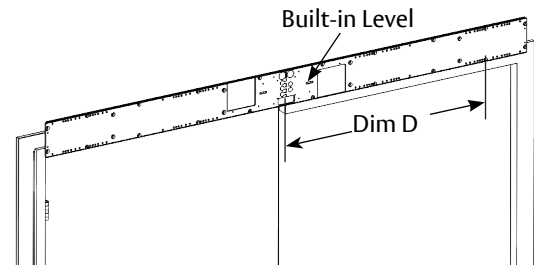

Figure 5
4. Interlock right backplate (3 small “fingers”) from Box 2 with left backplate. (Figure 5)
5. Use level on right backplate to ensure proper alignment. (Figure 5)
6. Using backplate as template, mark conduit slot and Dim D mounting hole. (Figure 5)